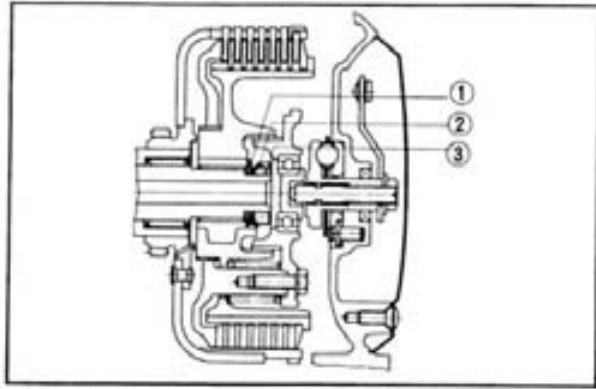

Fig. 4-10 ① Spring washer ② Lock washer ③ Lock nut
4. Assemble the clutch center, the spring washer (tab toward the front), lock washer and lock nut in that order. And torque with a lock nut box wrench (Tool No. 07916-2830000) to **32.5~36.2 ft-lbs (4.5~5.0 kg-m)**. Refer to Fig. 4-10 for the installation of the spring washer.